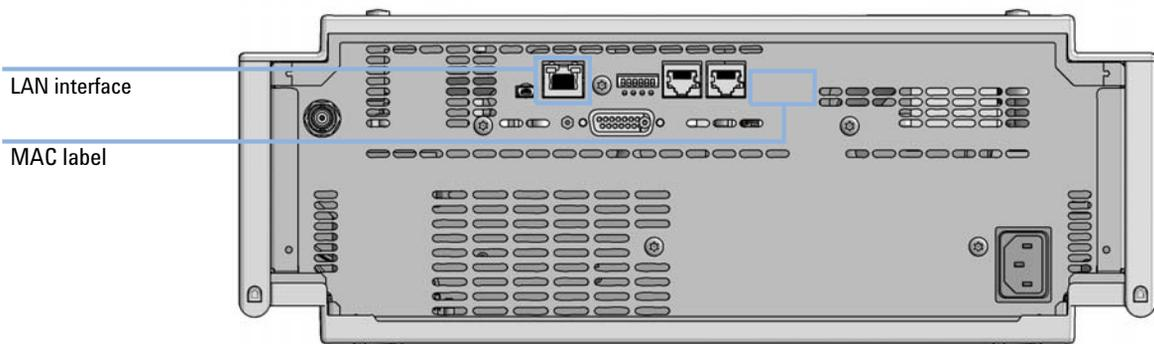

Figure 55 Location of LAN interfaces and MAC label
- 1 Note the MAC (Media Access Control) address for further reference. The MAC or hardware address of the LAN interfaces is a world wide unique identifier. No other network device will have the same hardware address. The MAC address can be found on a label at the rear of the module underneath the configuration switch (see Figure 55 on page 212).
- 2 Connect the instrument's LAN interface (see Figure 55 on page 212) to